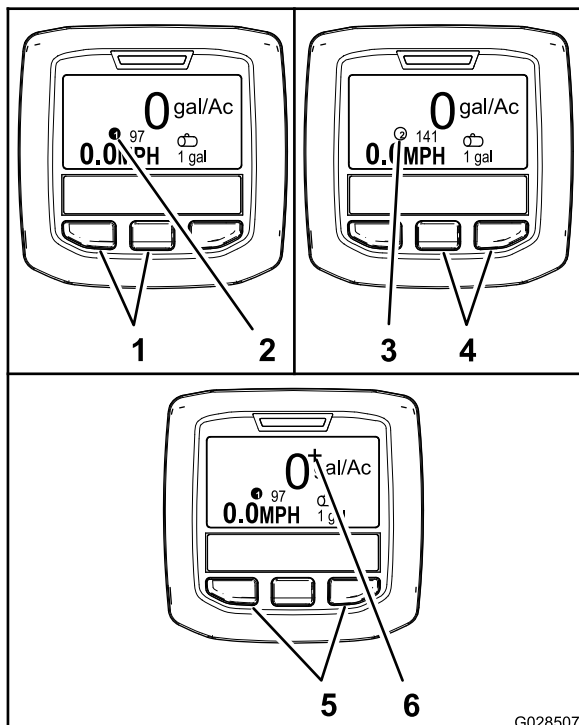

Figure 66
- To select application rate 1, press the left 2 buttons of the InfoCenter (Figure 66).
**Note:** An icon ① appears.
- To select application rate 2 (application rate), press the right 2 buttons (Figure 66).
**Note:** An icon ② appears.
- To temporarily apply a boost application rate, press and hold the 2 outer buttons (Figure 66).